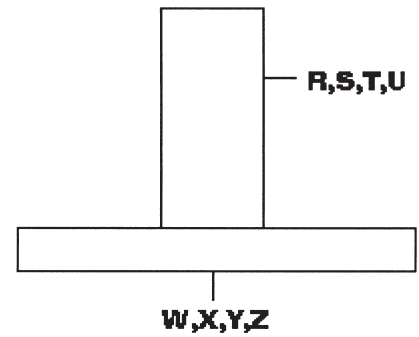

Figure 4
19. Weld R 90 degrees to center of 8'. This unit now becomes AA. (see Fig. 4)
20. Weld S 90 degrees to center of X. This unit now becomes BB. (see Fig. 4)
21. Weld T 90 degrees to center of Y. This unit now becomes CC. (see Fig. 4)
22. Weld U 90 degrees to center of Z. This unit now becomes DD. (see Fig. 4)